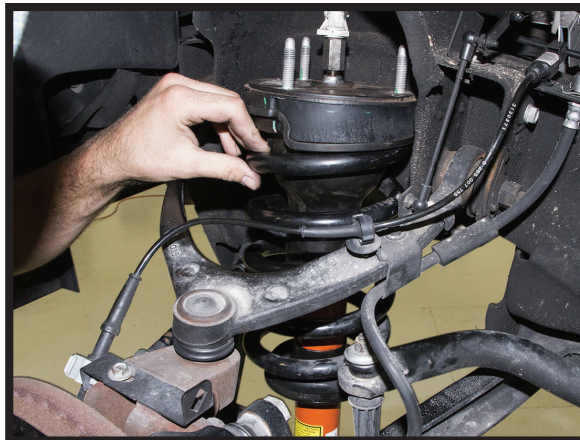

FIGURE 11
6. CAREFULLY REMOVE COIL STRUT FROM THE VEHICLE. (FIGURE 11)